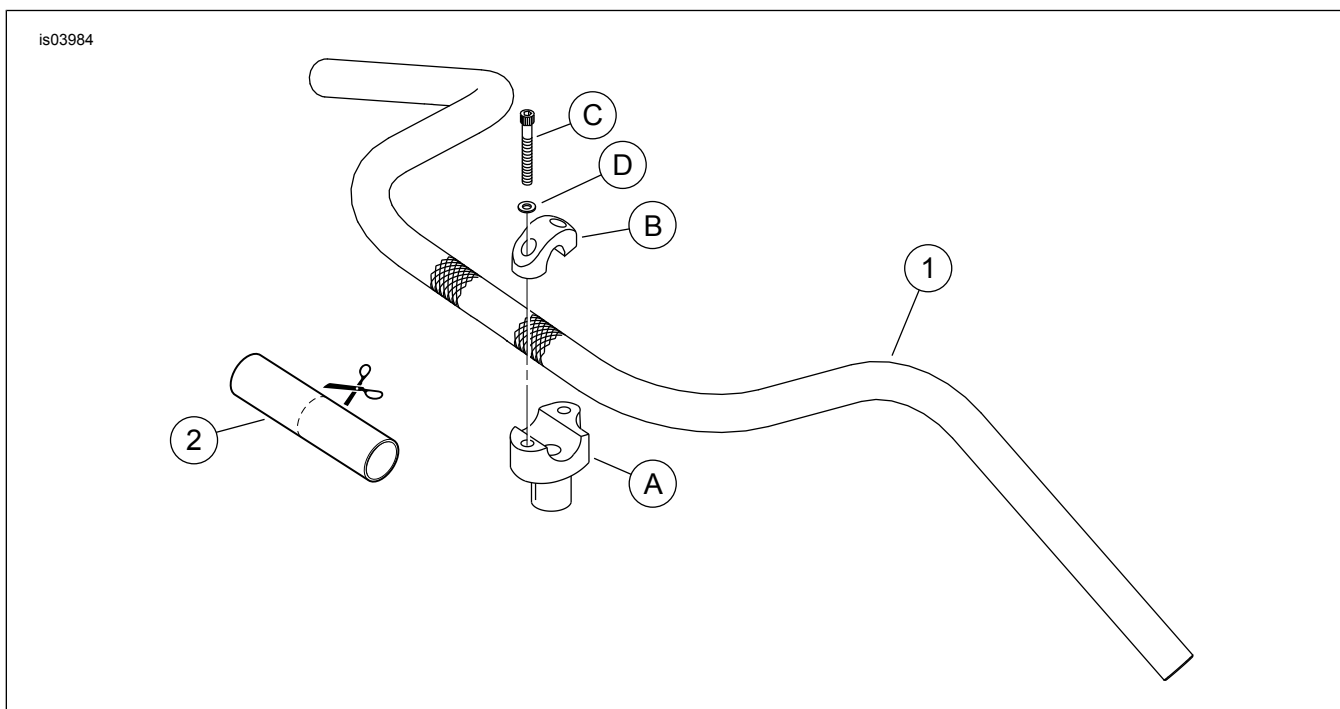

Figure 2. Service Parts
1. See Figure 2. Cut the rubber sleeve (2) into two equal lengths. Slide a section of the sleeve onto each of the switch wire bundles, positioning the sleeve close to the switch end.